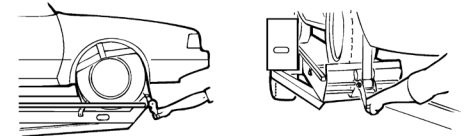

Figure 17
12. Route the tire strap in front of the tube and through the slot in the ratchet spool. Pull about 6 inches of the tire strap through the ratchet spool. Keeping the strap evenly over the tire, operate the ratchet until the strap is tight. (Figure 17) Your vehicle-in-tow **tires are too big** if 6 inches of the tire strap will not pull through the ratchet spool. If the tires are too big, you may use customer supplied alternative tie down straps. Special instructions are offered on [youtube.com/uhaulofficialvideos](https://www.youtube.com/uhaulofficialvideos) for securing the vehicle-in-tow when the tire straps are not used, or ask a U-Haul representative for these instructions, or follow instructions provided with the alternative tie down straps. **DO NOT** tow without vehicle-in-tow tire straps or alternative straps installed.